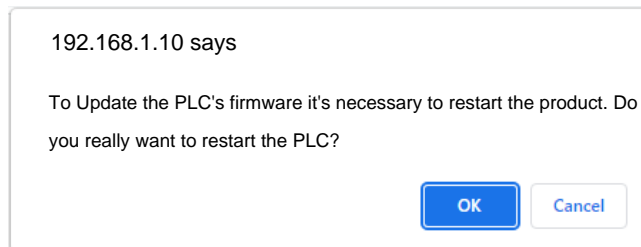

Figure 5.3: Firmware update confirmation screen.
- Click on **Start Firmware Download**. A confirmation screen will be displayed. Click **OK** to start the update or **Cancel** to abort the operation. Figure 5.3 shows the firmware update confirmation screen.